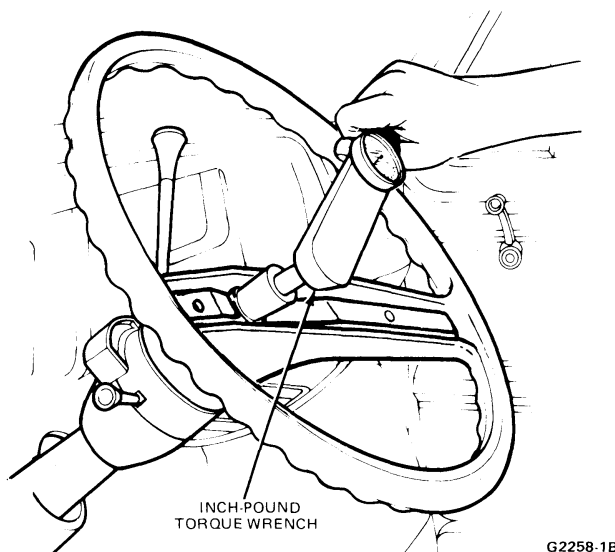

FIG. 4 Checking Manual Steering Gear Preload—Typical
4. Place an in-lb torque wrench on the steering wheel nut (Fig. 4) and measure the lowest torque required to turn the wheel at a constant speed. This method can be used to measure worm bearing preload or sector shaft meshload. Refer to preceding sections for adjustment procedures.